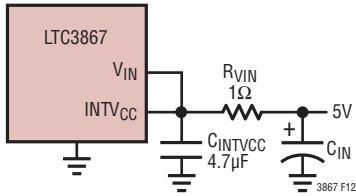

Figure 12. Setup for a 5V Input
For applications where the main input power is 5V, tie the VIN and INTVCC pins together and tie the combined pins to the 5V input with a 1 $\Omega$  or 2.2 $\Omega$  resistor as shown in Figure 12 to minimize the voltage drop caused by the gate charge current. This will override the INTVCC linear regulator and will prevent INTVCC from dropping too low due to the dropout voltage. Make sure the INTVCC voltage is at or exceeds the RDS(ON) test voltage for the MOSFET which is typically 4.5V for logic-level devices